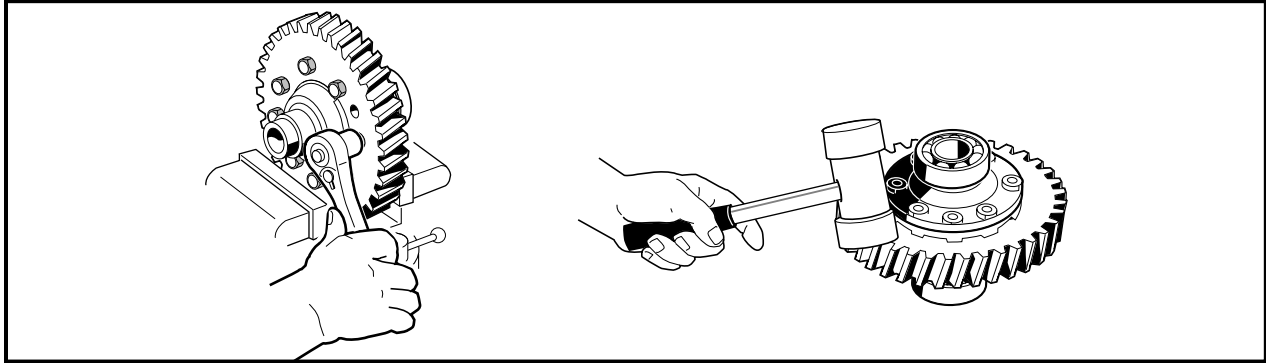

Figure 5-15 Remove Ring Gear
2. It may be necessary to tap the ring gear off with a plastic or rubber mallet (**Figure 5-15, Page 5-10**). See following **NOTE**.